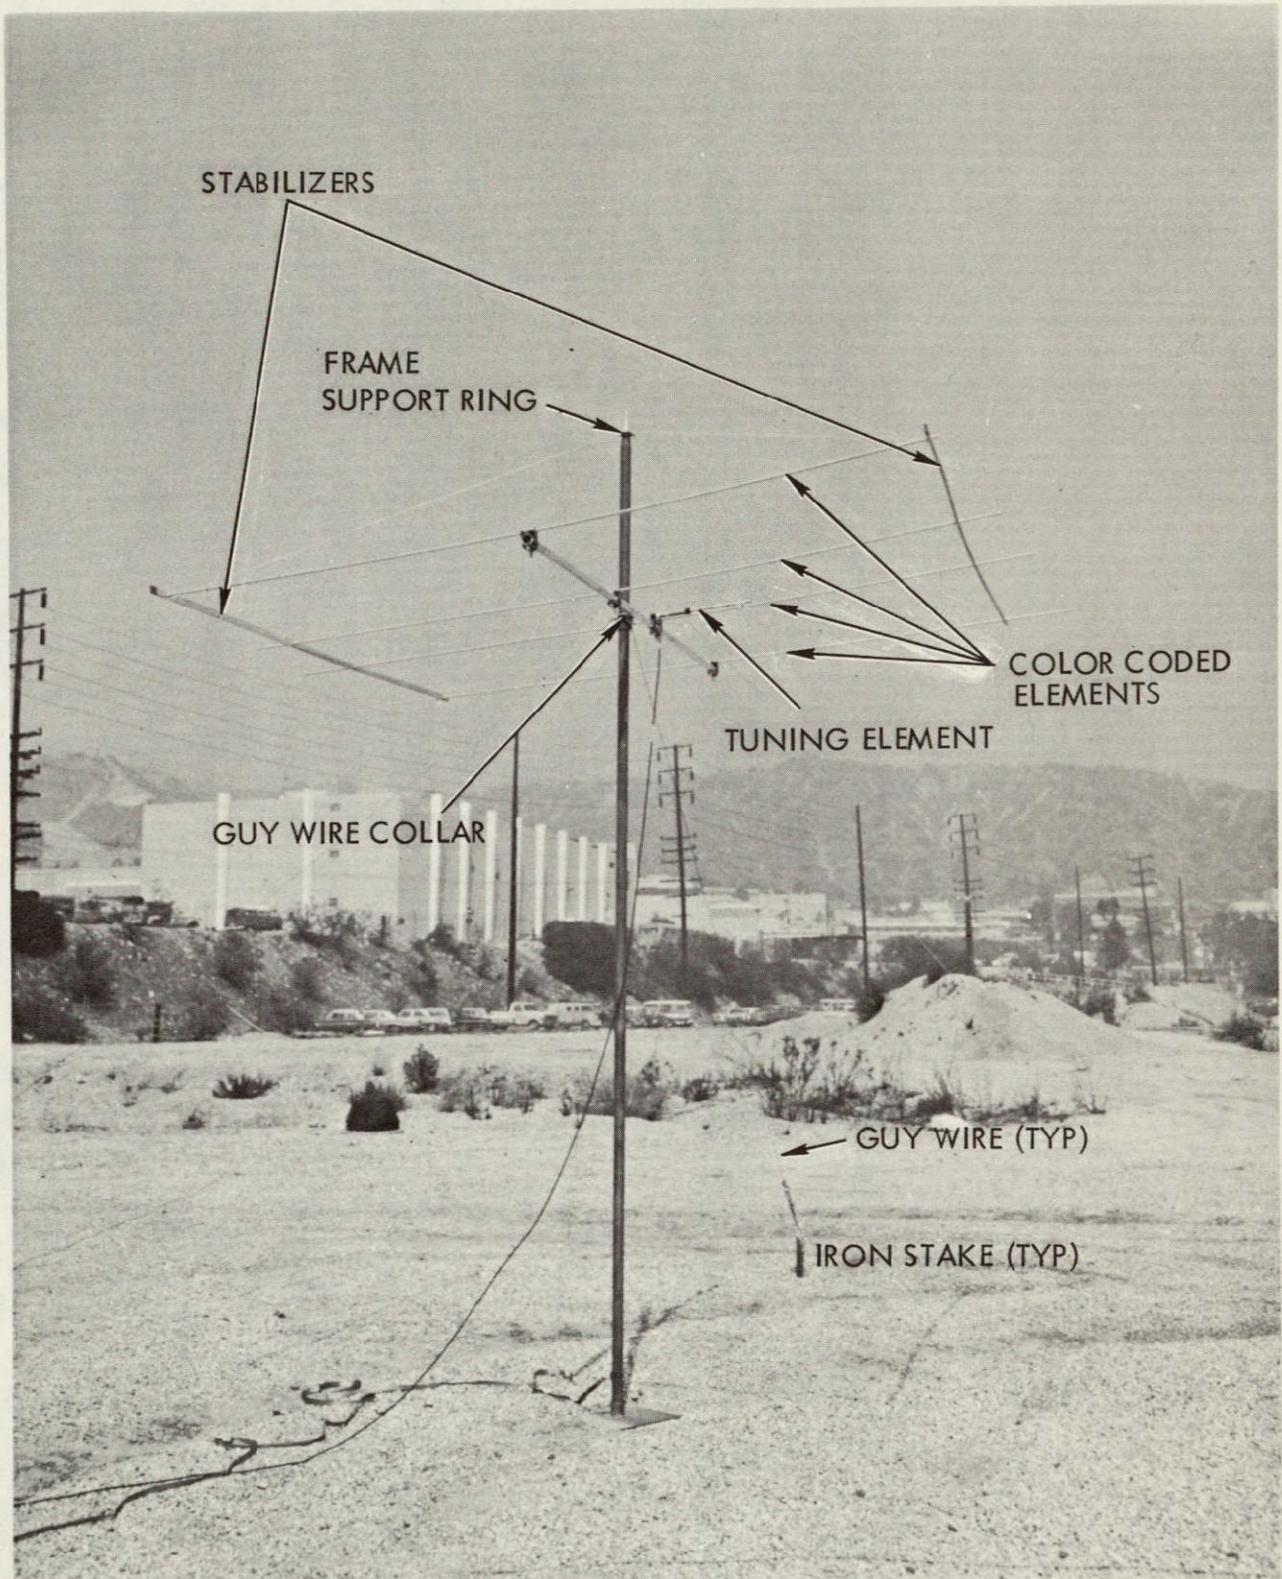

Fig. 15. Yagi antenna and mast
- 6) Measure the guy wire location from the base of the vertical mast (Fig. 15), and drive an iron stake into the ground. (The mast should be held in a vertical position by another crewman.)